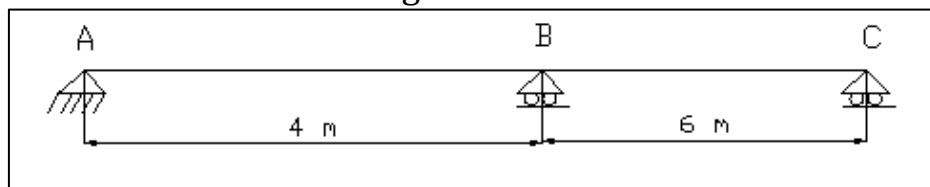

Fig. 8
8. Compute the ordinates of influence lines for reaction at A for the beam shown in Fig. 8 at 1m interval and draw the influence line diagram. The moment of inertia is constant throughout.